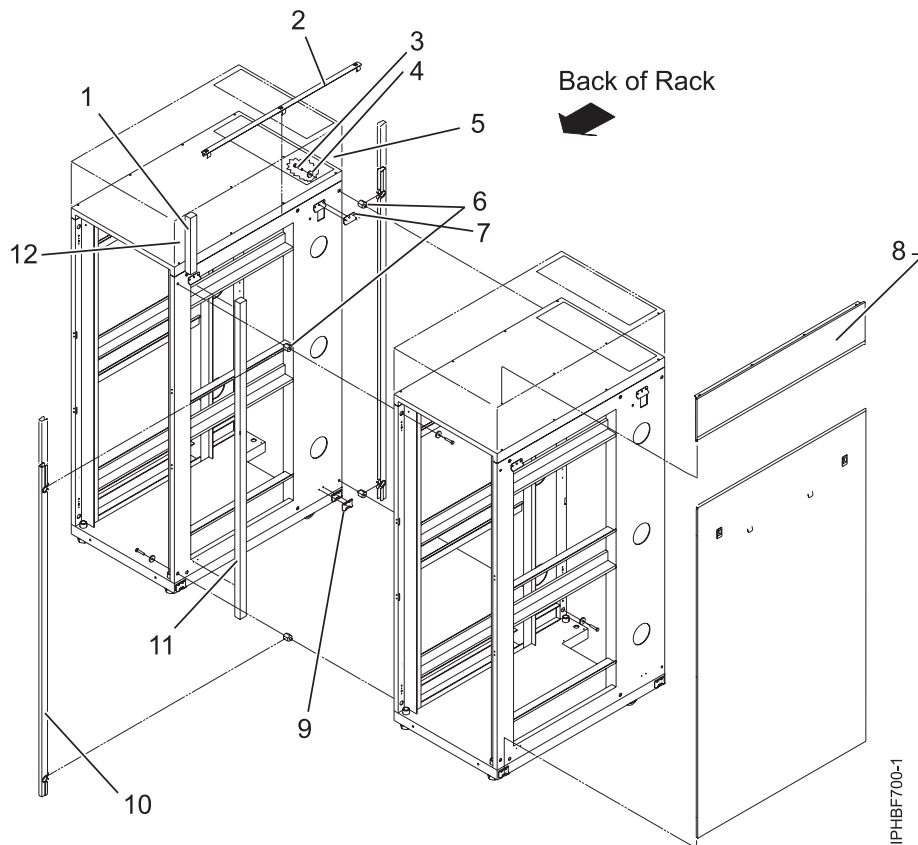

Figure 104. Removing the side panels, Z and J brackets, and installing standoffs and long foam to connect multiple racks
4. Install the first two standoffs in the upper-left and lower-right corners of the first rack as shown in Figure 104 on page 108.
5. Install the second two standoffs in the upper-left and lower-right corners of the second rack as shown in Figure 104 on page 108.
6. Attach the long foam as shown in Figure 104 on page 108. For a model T42 rack, join the short foam to the end of the long foam, and adhere it to the frame length of the rack.